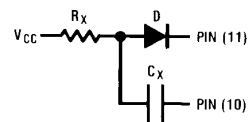

FIGURE 2
4. If C_X is an electrolytic capacitor a switching diode is often required for standard TTL one-shots to prevent high inverse leakage current (*Figure 2*).